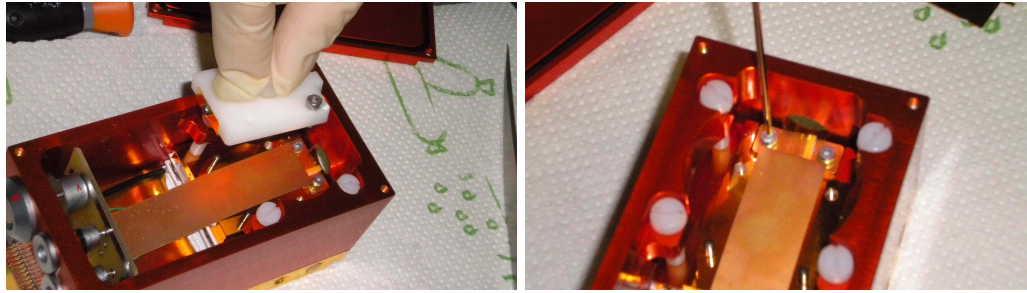

Figure 7.6.: Laser exchange procedure: removing the contact set (left), securing the laser submount (right).
2. remove the two screws (3) holding the contact set (4) using a 2mm hex key
3. remove the contact set using the central PET¹ knob, as show in figure 7.6. *Note:* this PET screw is used as a knob, do not remove it.
4. remove the two screws holding the laser submount using a 1.5 mm hex key, as show in figure 7.6